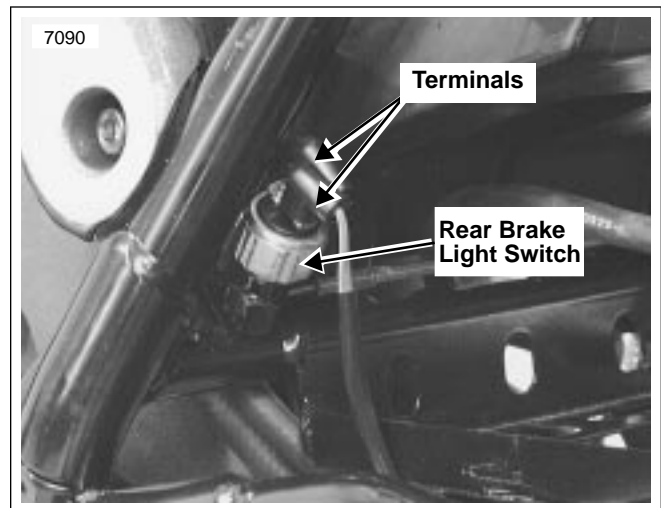

Figure 4. Rear Brake Light Switch
8. See Figure 4. Disconnect two wires from rear brake light switch.
14. See Figure 4. Remove rear brake light switch from original brake line.
35. See Figure 4. Connect rear brake light switch wires to rear brake light switch.